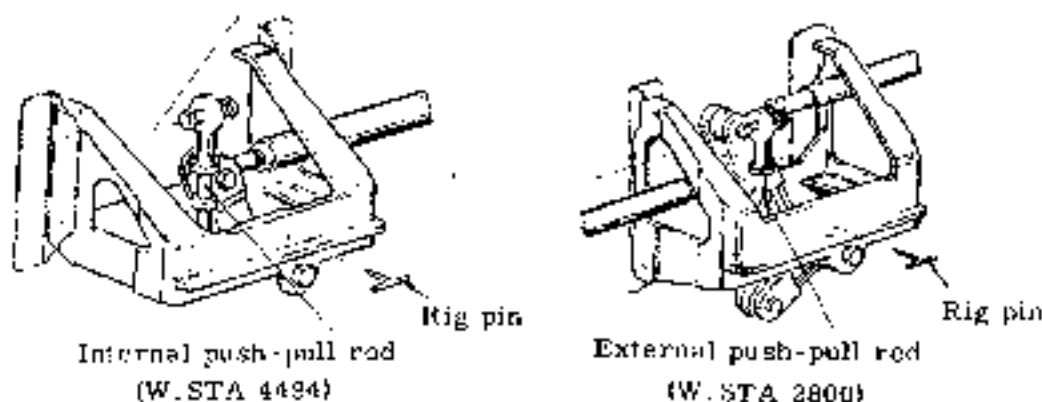

Fig. 5-39 Adjustment of push-pull rod
- (a) Adjustment of push-pull rod. (See Fig. 5-39)